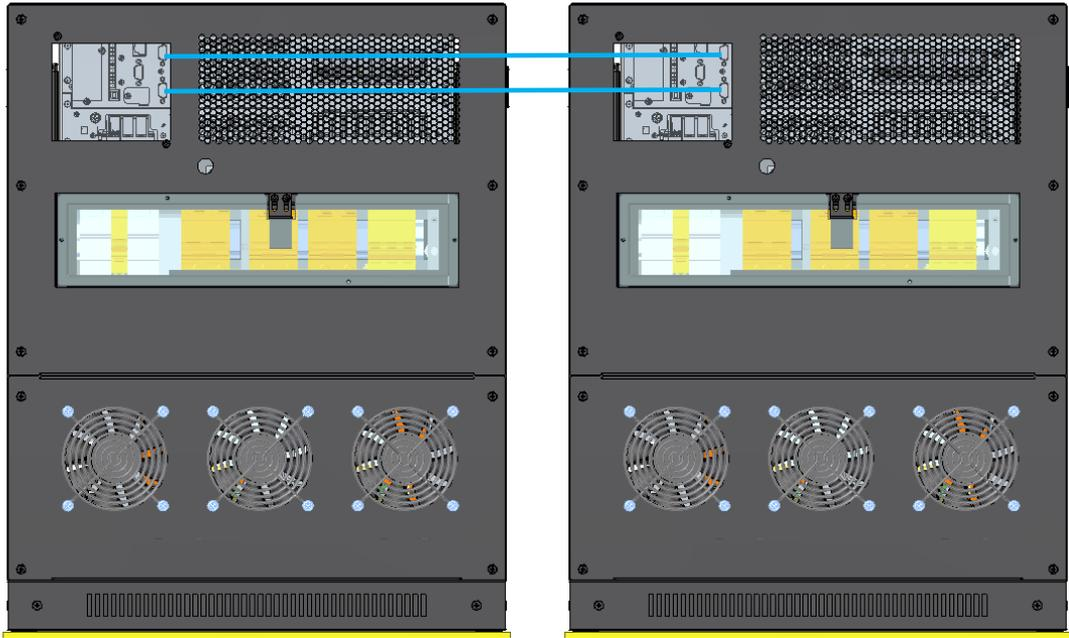

Figure 3-7 LBS Cable Connection (20kVA)
d) For any online UPS, enter the interface shown in Figure 3-7. Set the system parallel No. from 'N' to 'N+1', then click the 'Sync parallel parameters'.